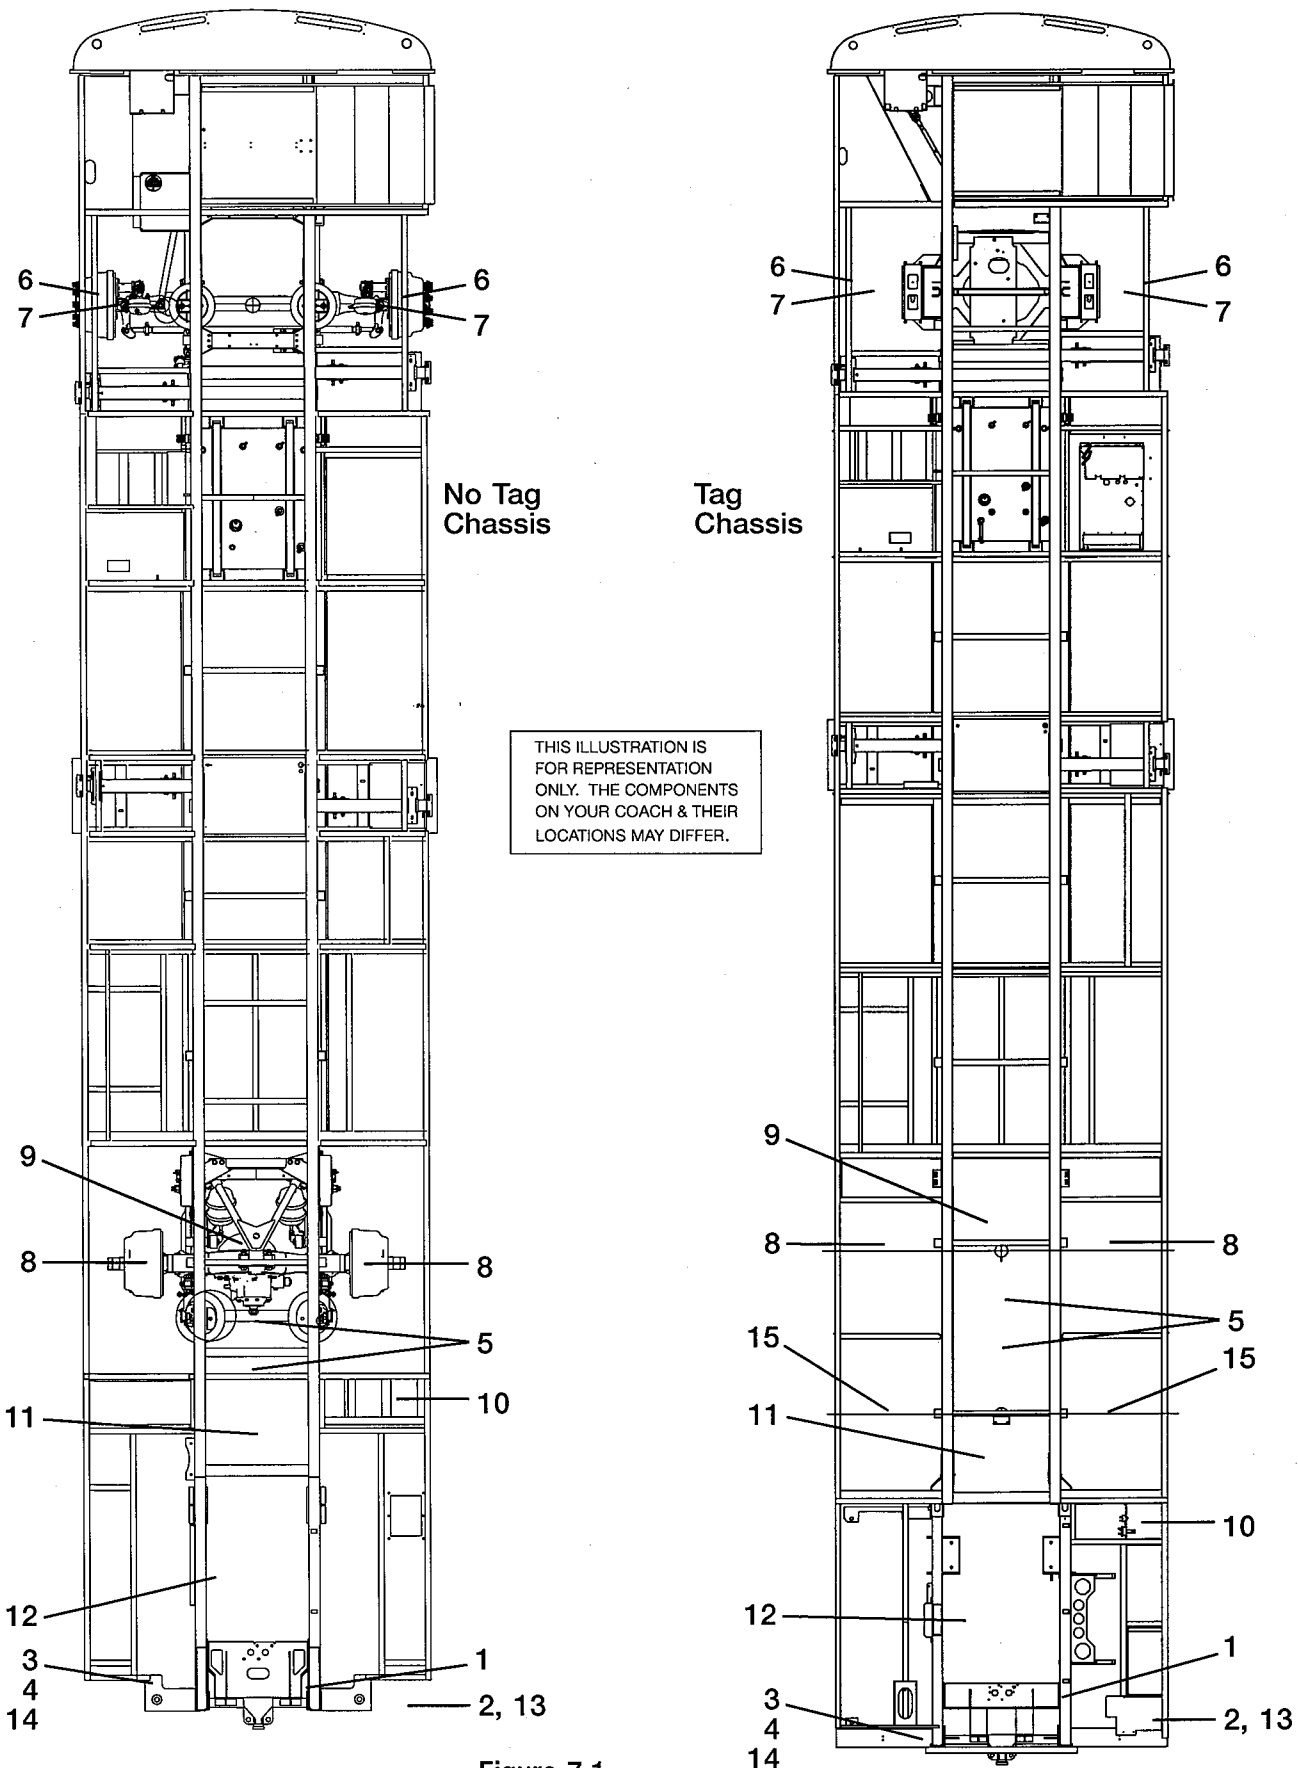

Figure 7.1
* These item numbers refer to Figure 7.1
* These item numbers refer to the chassis Figure 7.1